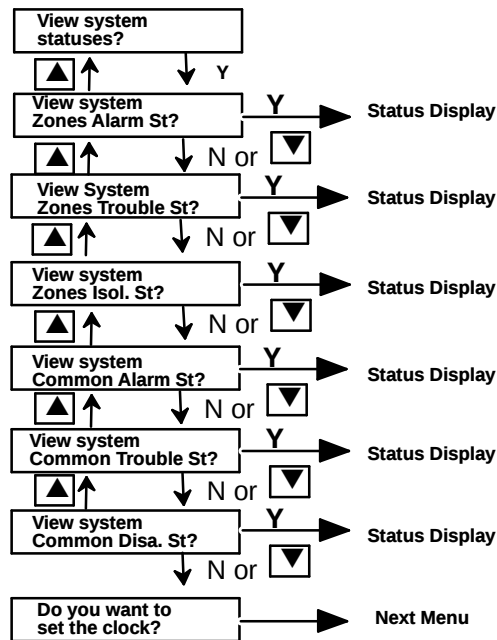

Figure 3-4 View System Statuses menu options sequence.
Select "View System Statuses" option from the Main Menu. This selection allows you to choose various system statuses. These are (1) Zone Alarm Status (2) Zone Trouble Status (3) Zone Isolation Status (4) Common Alarm Status (5) Common Fault Status (6) Common Disabled Status The sequence of options shown in Figure 3-4 will be displayed.